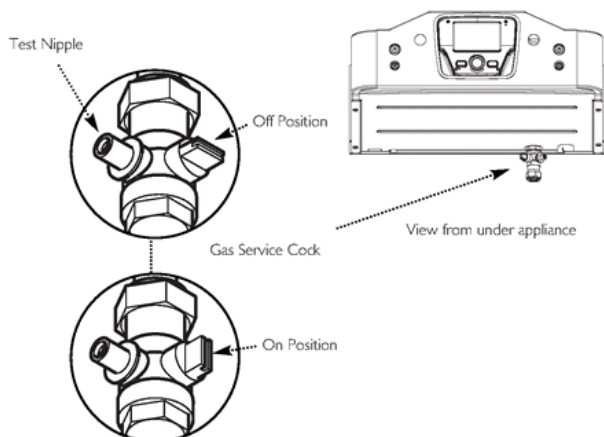

Fig. 11
2. A gas service cock is supplied to enable connection using 15mm copper pipe (Fig. 11).